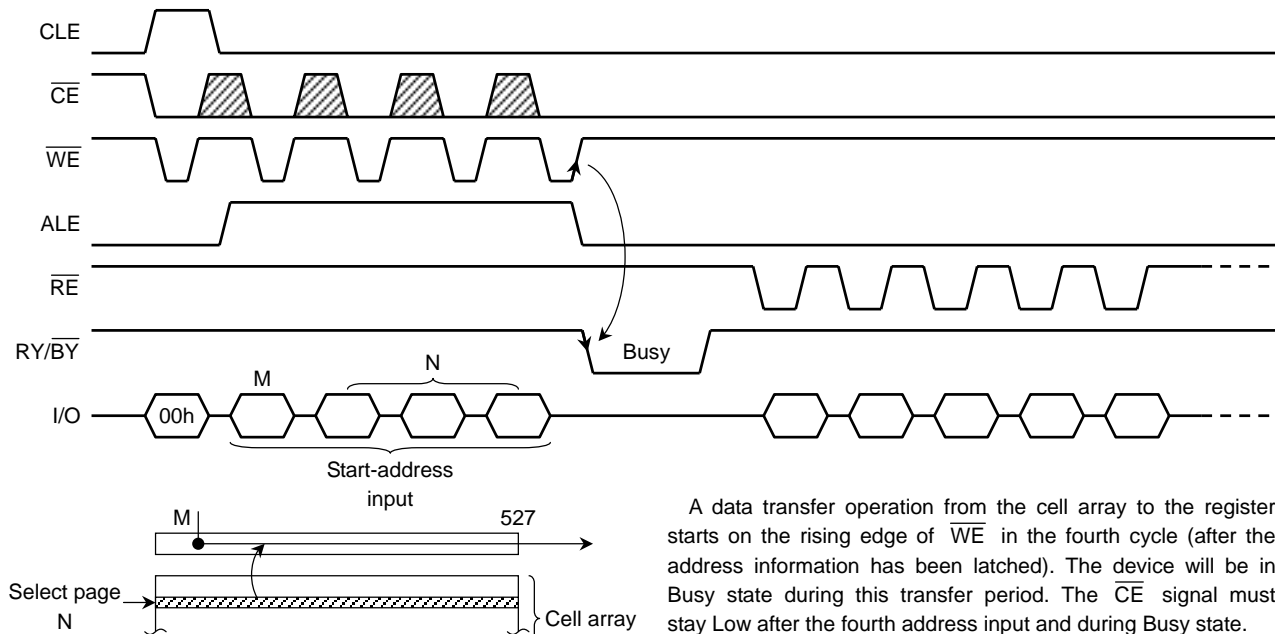

Figure 3. Read mode (1) operation
Read mode (1) is set when a "00h" command is issued to the Command register. Refer to Figure 3 below for timing details and the block diagram.